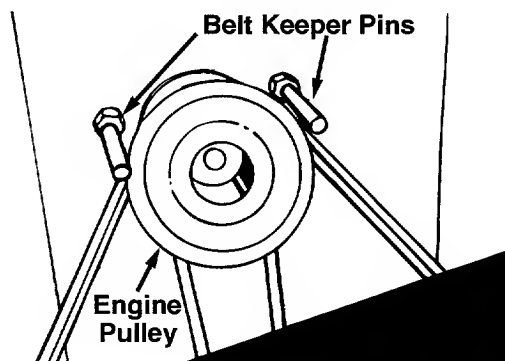

Figure 25
**NOTE:** Figure 25 and 27 are shown with the unit tipped up for clarity. It is not necessary to tip the unit to remove the belts.
**NOTE:** When reassembling, make certain belt keeper pins are assembled in the same locations from which they were removed. See Figure 25.
4. Remove the belt keeper pins from the lower frame. See Figure 25.